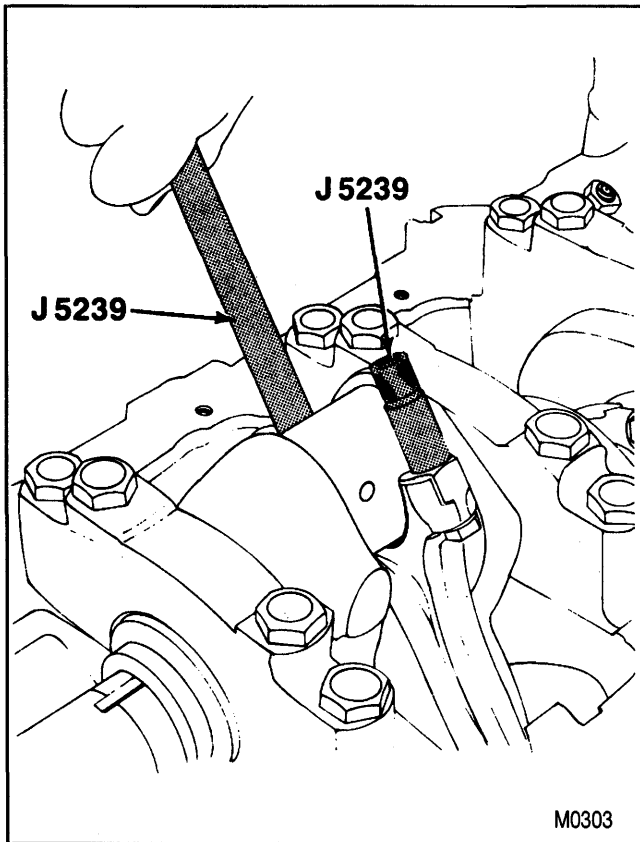
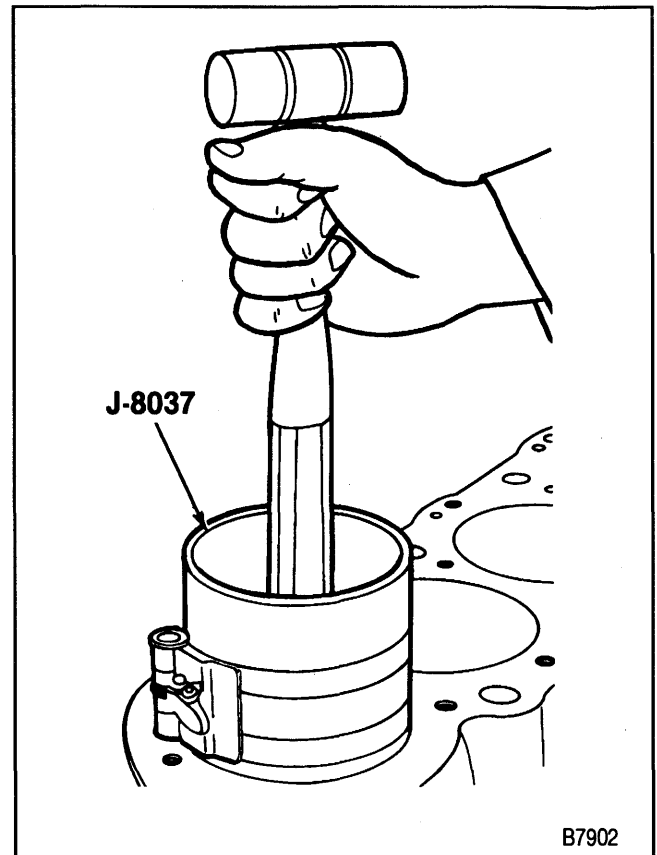

Figure 31—Replacing the Piston and Connecting Rod
Figure 33—Installing the Piston
Remove or Disconnect (Figure 31)
- A. Attach J 5239 to the connecting rod bolts (figure 31).
Install or Connect (Figures 31 through 34)
- C. Without disturbing the ring end gap location, install J 8037 over the piston (figure 33).
- E. Place the piston in its matching bore. The connecting rod bearing tang slots must be on the side opposite the camshaft. Using light blows with a hammer handle, tap the piston down into its bore (figure 33). At the same time, from beneath the vehicle guide the connecting rod to the crankpin with J 5239 (figure 31). Hold the ring compressor against the block until all rings have entered the cylinder bore.